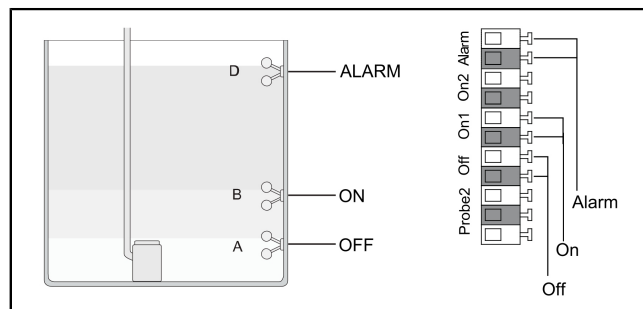
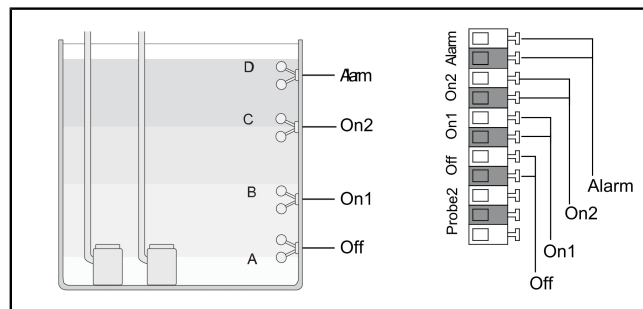

Fig. 3: Mono float switch (non-ATEX)
Fig. 4: Duo float switch (non-ATEX)
- Pull out blind plugs (1).
- Connect the cable ends of the float switches to the terminals shown. (see "Fig. 3: Mono float switch (non-ATEX)", page 34 + see "Fig. 4: Duo float switch (non-ATEX)", page 34)